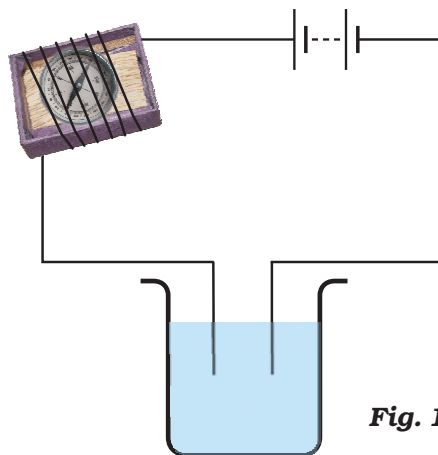

Fig. 11.9
3. Name three liquids, which when tested in the manner shown in Fig.11.9, may cause the magnetic needle to deflect.